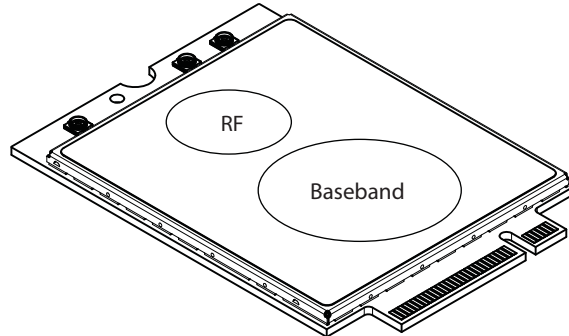

Figure 7-4: Shield locations
Specific areas requiring heat dissipation are shown in Figure 7-4:
- Monitor temperature at all shield locations. Attach thermocouples to the areas indicated in Figure 7-4 on page 64 (RF, Baseband).